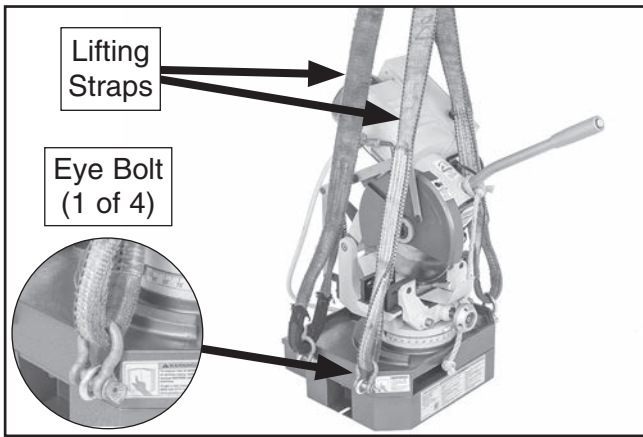

Figure 10. Lifting and placing machine.
5. Thread (4) eye bolts (see **Figure 10**) into machine base, then thread lifting straps through eye bolts. If using larger lifting straps, attach shackles (not included) to eye bolts.